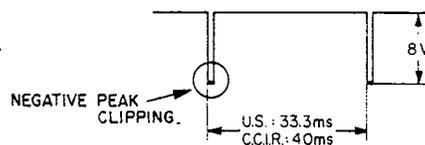

Fig. 8
- (3) Connect Oscilloscope to TP-5 and confirm that the pick-up pulse amplitude is more than 7 V, as shown in Fig. 8 and that the pulse peaks are clipping. (In case the amplitude is less than 7 V, or the pulse peaks are not clipping, adjust the angle of the pick up coil in the upper part of the head drum and adjust the gap between the pick up coil and pick up plate).